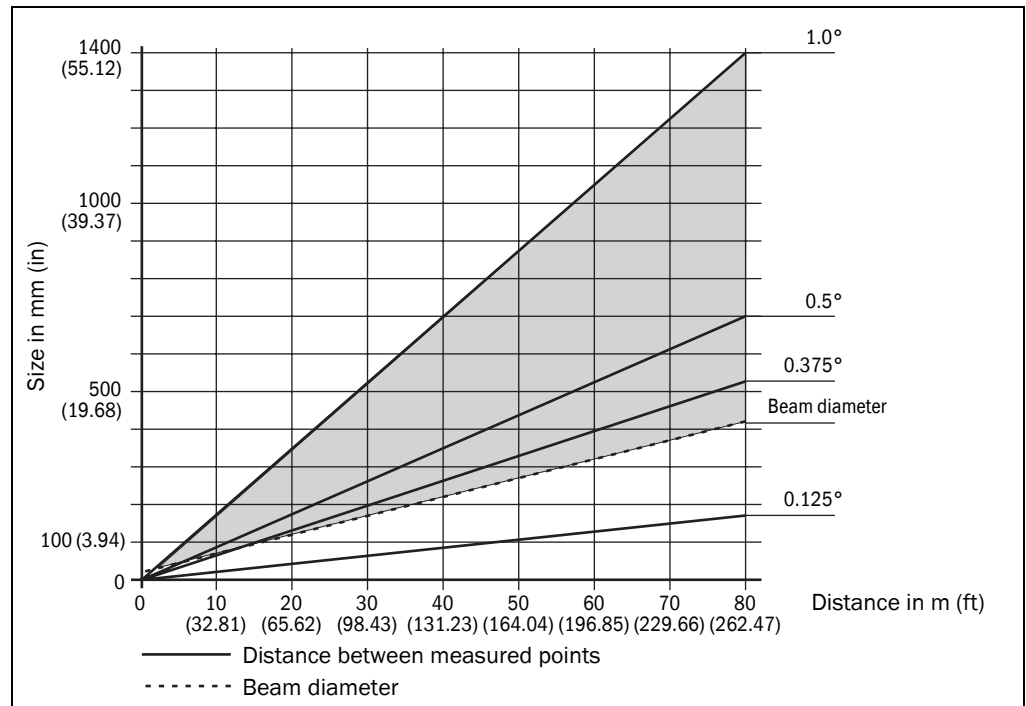
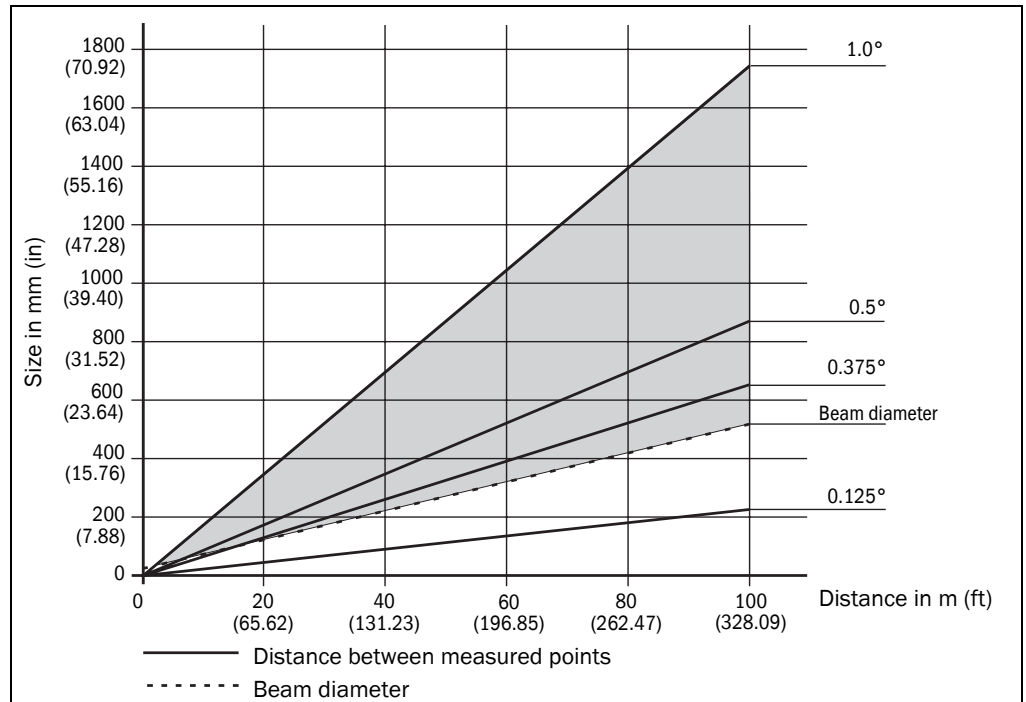

Fig. 12: Beam diameter and distance between measured points at 0 to 80 m (0 to 262.47 ft)
Fig. 13: Beam diameter and distance between measured points at 0 to 100 m (0 to 328.08 ft)
The two diagrams in Fig. 12 and Fig. 13 show the beam diameter and the distance between the measured points as a function of the distance from the NAV300.
**Example for angular resolution of 0.125° in Fig. 12**
**Example for angular resolution 0.5° in Fig. 13**
➤ For the beam diameter and distance between the measured points as a function of the distance from the NAV300, see the diagrams in Fig. 12 and Fig. 13.